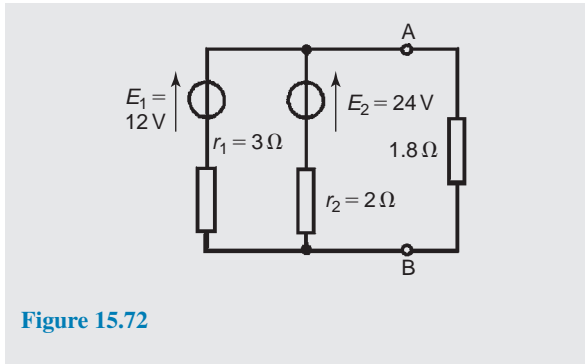
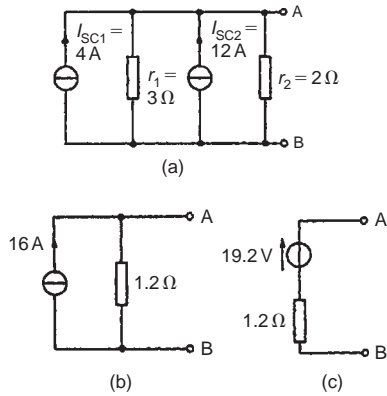

Figure 15.72
Figure 15.73
Problem 20. (a) Convert the circuit to the left of terminals AB in Fig. 15.72 to an equivalent Thévenin circuit by initially converting to a Norton equivalent circuit. (b) Determine the current flowing in the $1.8\ \Omega$ resistor.
- (a) For the branch containing the 12 V source, converting to a Norton equivalent circuit gives $I_{SC} = 12/3 = 4$ A and $r_1 = 3\Omega$. For the branch containing the 24 V source, converting to a Norton equivalent circuit gives $I_{SC2} = 24/2 = 12$ A and $r_2 = 2\Omega$. Thus Fig. 15.73(a) shows a network equivalent to Fig. 15.72
From Fig. 15.73(a) the total short-circuit current is $4 + 12 = 16$ A and the total resistance is given by $(3 \times 2)/(3 + 2) = 1.2\Omega$. Thus Fig. 15.73(a) simplifies to Fig. 15.73(b). The open-circuit voltage across AB of Fig. 15.73(b), $E = (16)(1.2) = 19.2$ V, and the resistance ‘looking-in’ at AB is 1.2Ω . Hence the Thévenin equivalent circuit is as shown in Fig. 15.73(c).
- (b) When the 1.8Ω resistance is connected between terminals A and B of Fig. 15.73(c) the current I flowing is given by